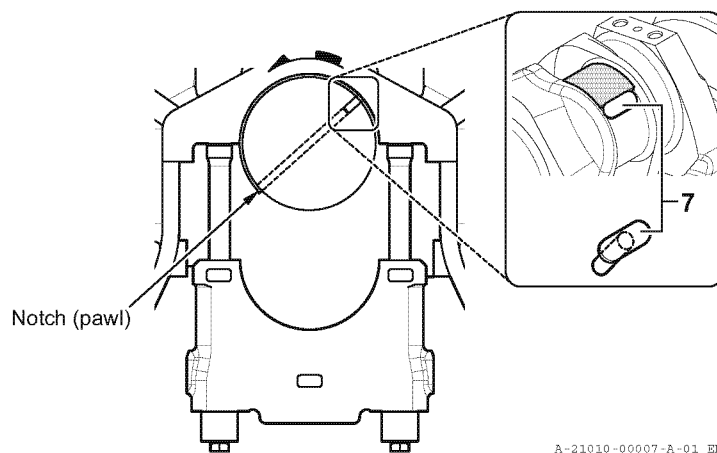

Fig.5 Removing the top bearing
16. Install the detaching pin 7 to the crankshaft oil hole that is on the non-operation side. (Install the detaching pin so that its head lies along the outer diameter of the crankshaft. Refer to Fig. 5.)